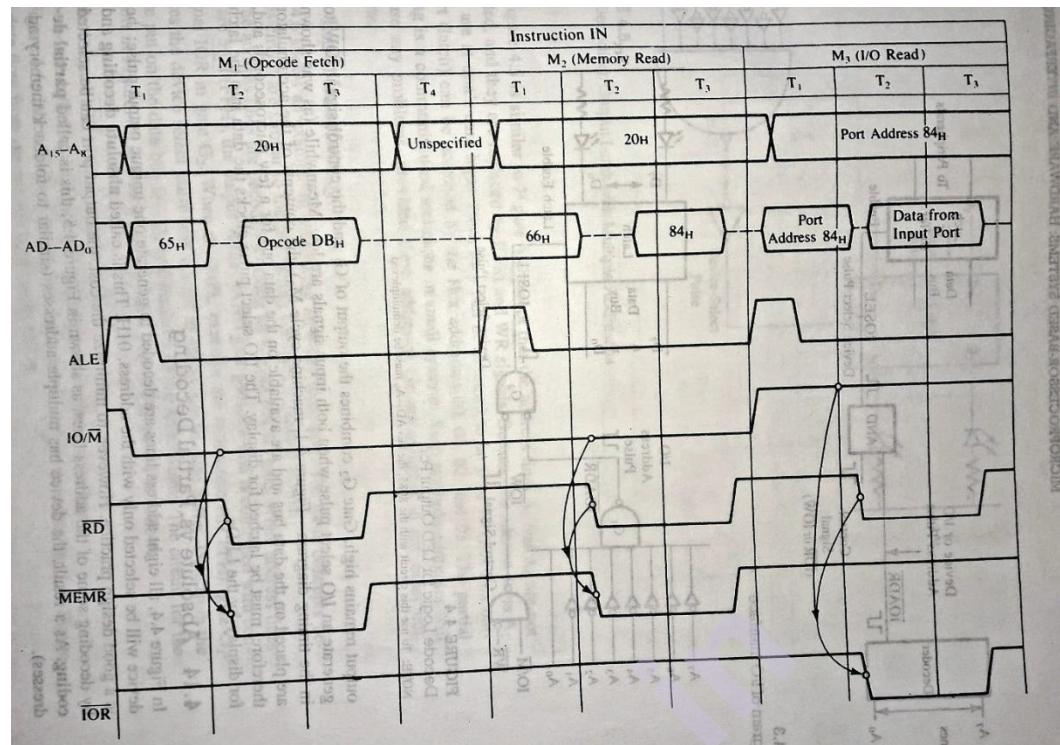

Figure 4.2:- 8085 Timing for Execution of IN Instruction
Machine cycles M_3 (Figure 4.2) is similar to the M_3 cycle of the OUT instruction; the only differences are (1) the control signal is \overline{RD} instead of \overline{WR} and (2) data flow from an input port to the accumulator rather than from the accumulator to an output port.